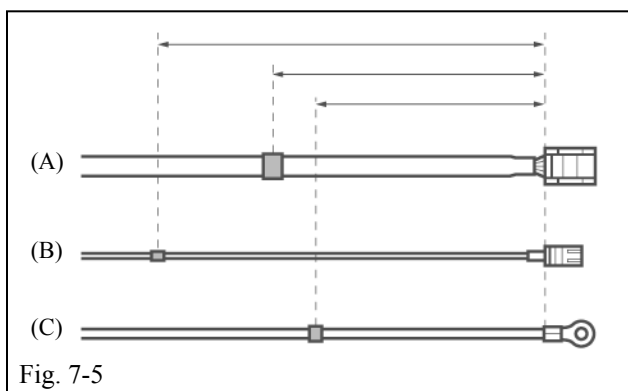

Fig. 7-5
- (3) Mark each of the cables with masking tape as shown in the figure. (Fig. 7-5)
- (A) Tuner cable: 130 mm (5.12 in.)
- (B) Antenna cable: 250 mm (9.84 in.)
- (C) Ground cable: 125 mm (4.92 in.)